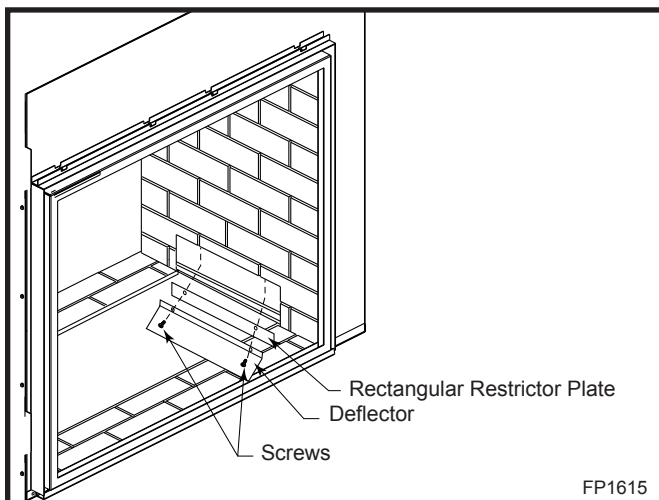

Fig. 30 Turn rectangular restrictor plate over to partially cover opening.
3. Remove the two (2) screws securing the deflector and the rectangular restrictor plate in place. (Fig. 30) Turn the restrictor plate around so the body of the plate will extend down over the air opening.